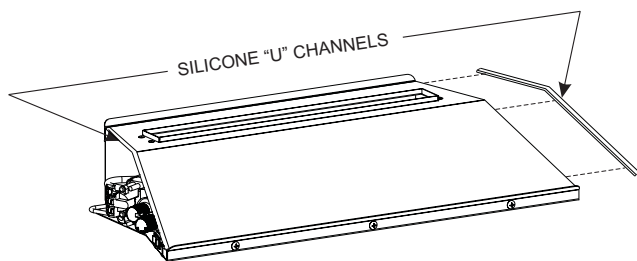

Figure 28
2. Before applying the glass to the burner top, attach the black silicone "U" channel edges (located in the Instruction Envelope) to each side of the Top Cover. **See Figure 28.** These "U" channels will help keep the decorative glass from falling over the outside edges of the Top Cover.